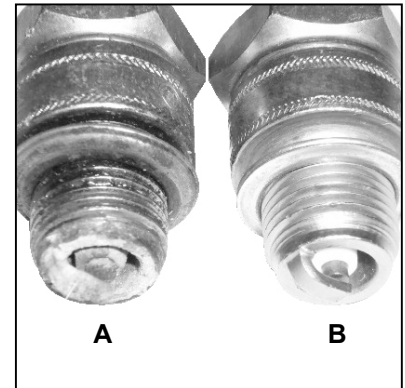

Figure 6
3. Check the spark plug for foreign substances. If moisture is present, wipe it off using a clean shop towel. If there are deposits present (A, Figure 6), use a fine grit sand paper to remove them. If there is structural damage to the spark plug, replace it with a new one (B, Figure 6).